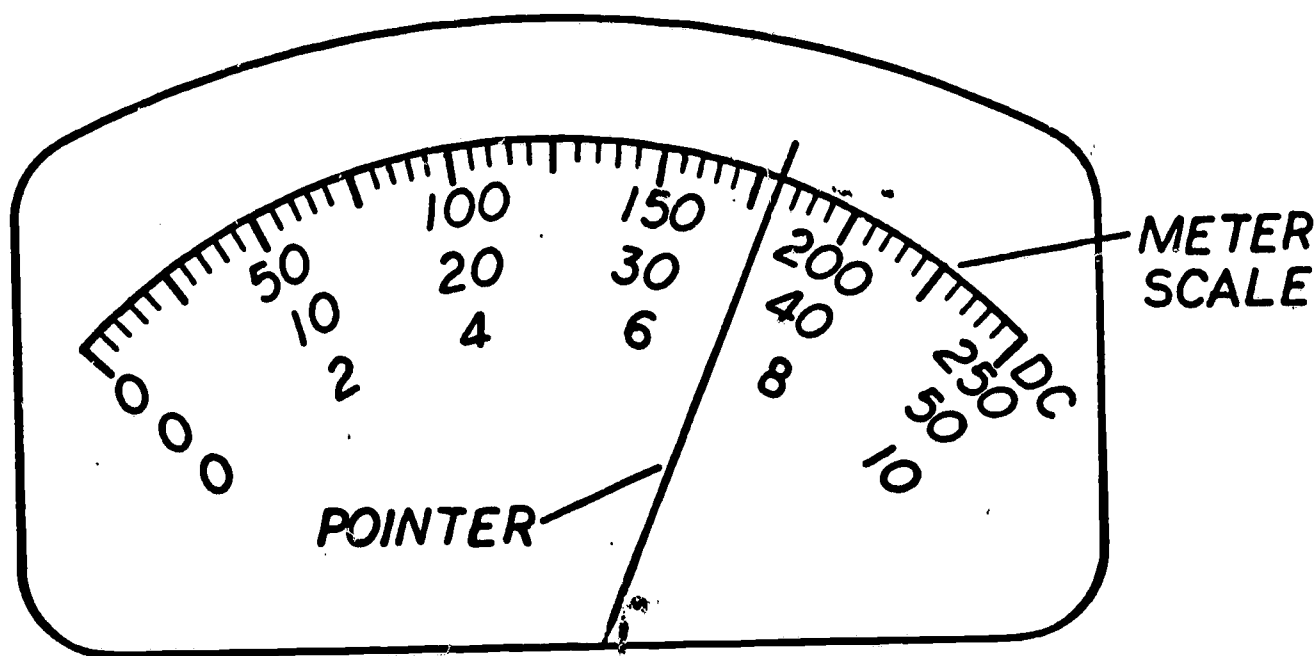

FIGURE 1.
2. Look at the METER SCALE on your VOM. On most VOM's the D.C. voltage scale is printed in black. On the scale below (see figure 1) the scale reads from 0-250, from 0-50, and from 0-10. What does the D.C. scale on your VOM read? Answer here: _____, _____, _____.